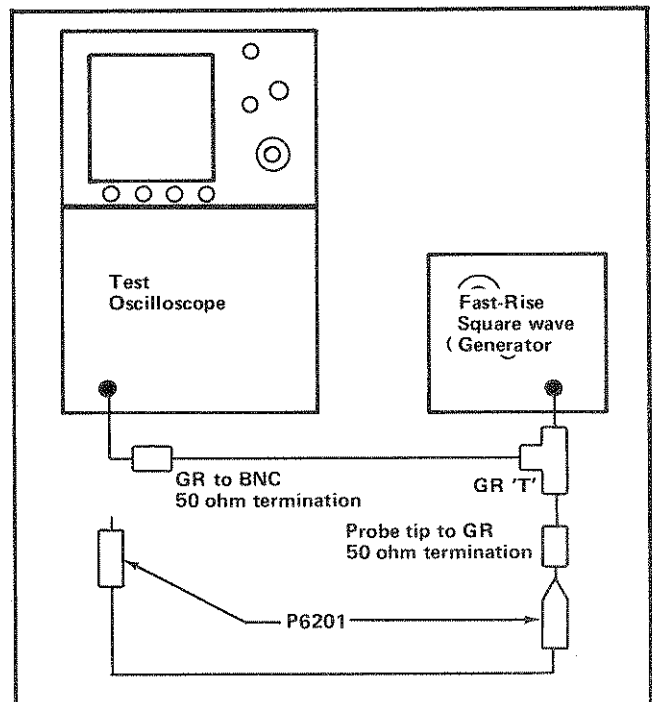

Fig. 5-2. Equipment setup for steps 2 through 5.
b. Connect the test equipment as shown in Fig. 5-2.